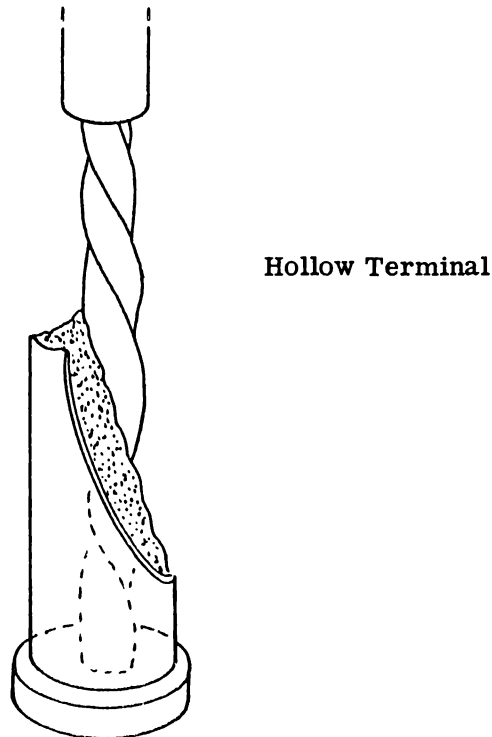

Figure 3-23
(6) There shall be no sharp points, corners, bulges or projecting wire strands.
(7) No wire or lead stress may occur, all shall have a relief bend or visible slack.
(8) Wires terminating in hollow, cylindrical, solder type terminals shall bottom in the cup before solder is applied. (Figure 3-23.)